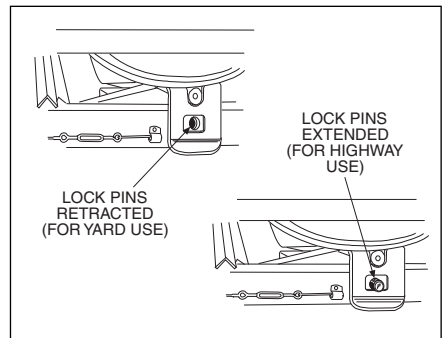

Figure 4
2. Confirm lockdown pins are in the retracted position. Both pins should be fully retracted through the fifth wheel assembly frame rails and through lockdown plates (see *Figure 4*).
2. Confirm lockdown pins are in the extended position. Both pins should be fully extended through fifth wheel assembly frame rails and through lockdown plates (see *Figure 4*).